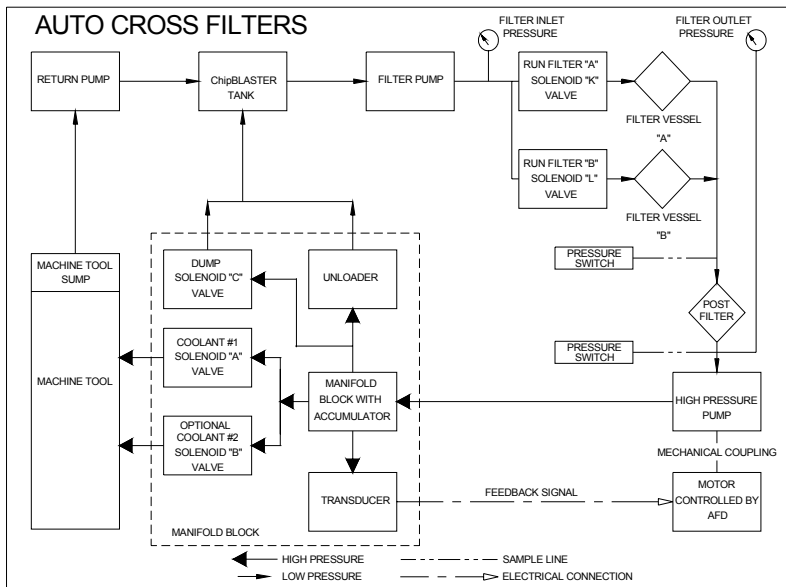

Figure 6b (JV, EV units)
- 12.3.5. Refer to figure 6b section 12.2 for flow diagram